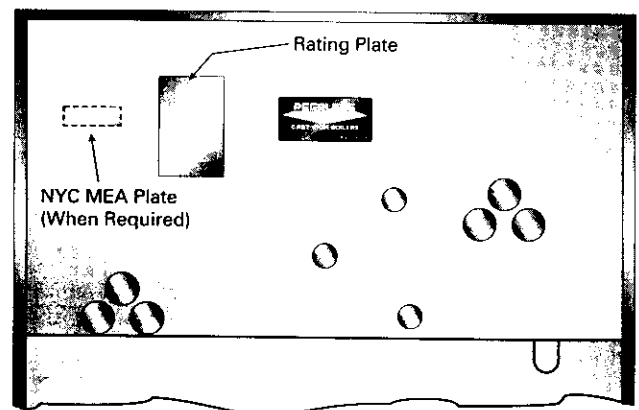

Figure 24: Location of Rating, Agency and Instruction Plates on Jacket Front Top Panel
1. Mount Boiler Rating Plates and Agency Plates on the Upper Jacket Front Panel as shown in Figure 24.